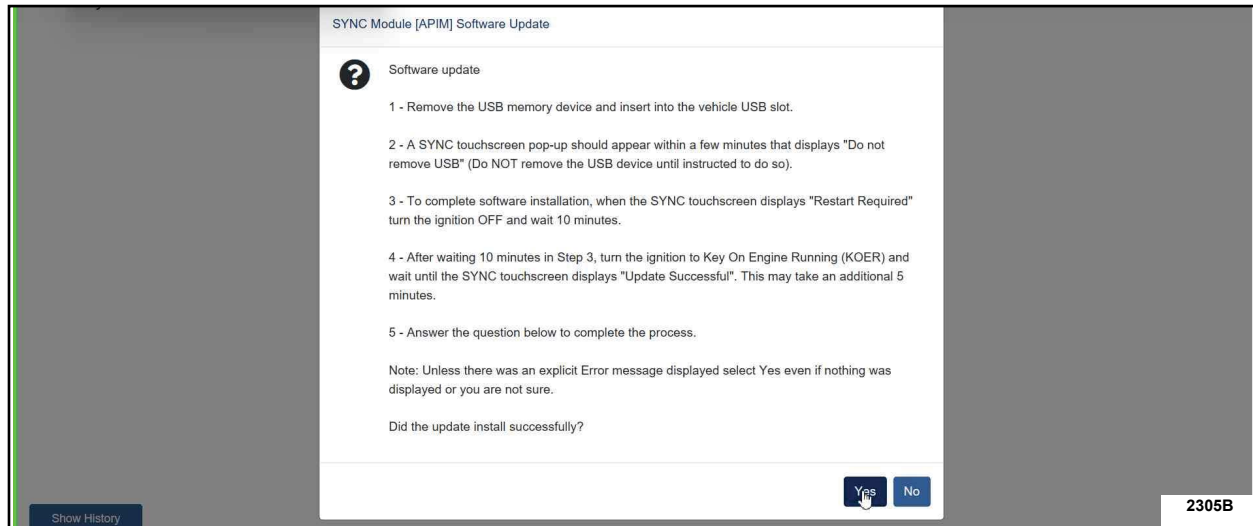

FIGURE 2
29. Return the USB thumb drive to the FDRS and follow the on-screen prompts carefully until the following screen is reached. See Figure 2.